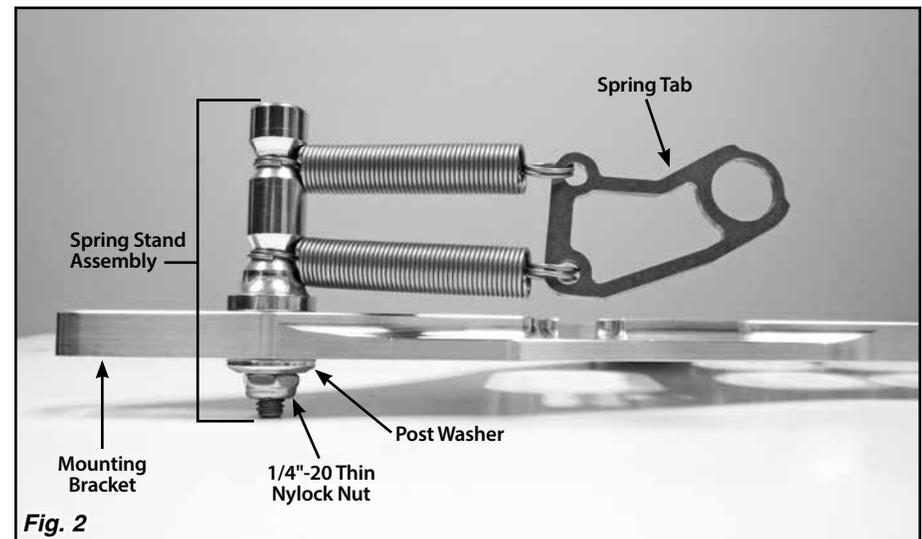

Fig. 2
Step 1: Remove the 1/4"-20 thin nylock nut and the post washer from the spring stand assembly. Install the spring stand with the springs and throttle tab onto the top side of the throttle cable mounting bracket, into the slot at the front driver side corner. Install the post washer (beveled edge out) and 1/4"-20 thin nylock nut on the bottom. **Fig. 2**